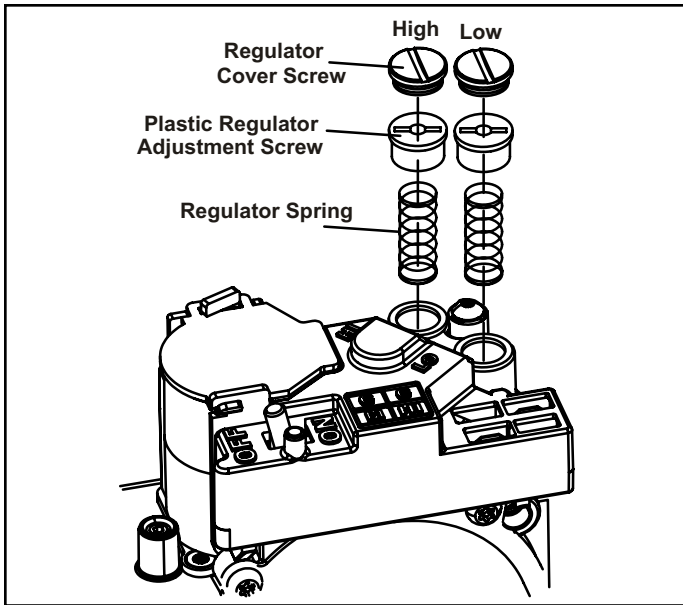
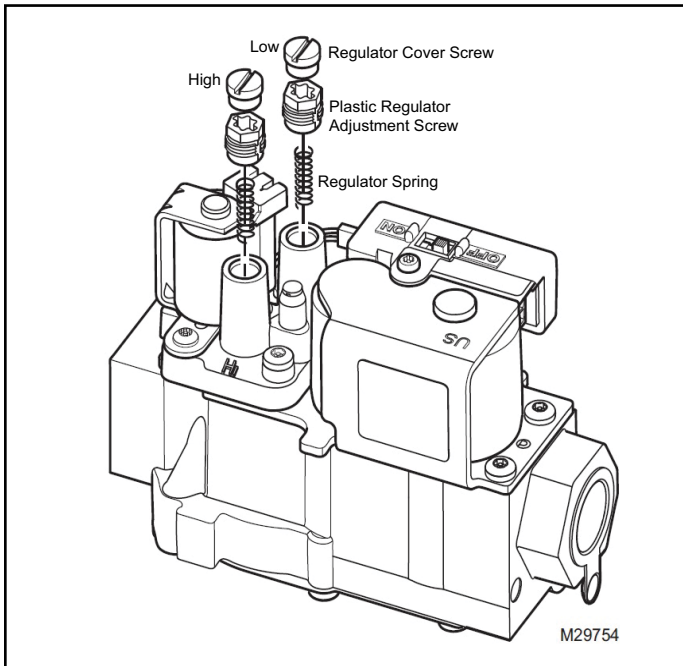

Figure 5. Remove Springs from White Rodgers Gas Valve
Figure 6. Remove Springs from Resideo Gas Valve
- a. Remove both high fire and low fire springs from the gas valve. See Figure 5 or Figure 6.